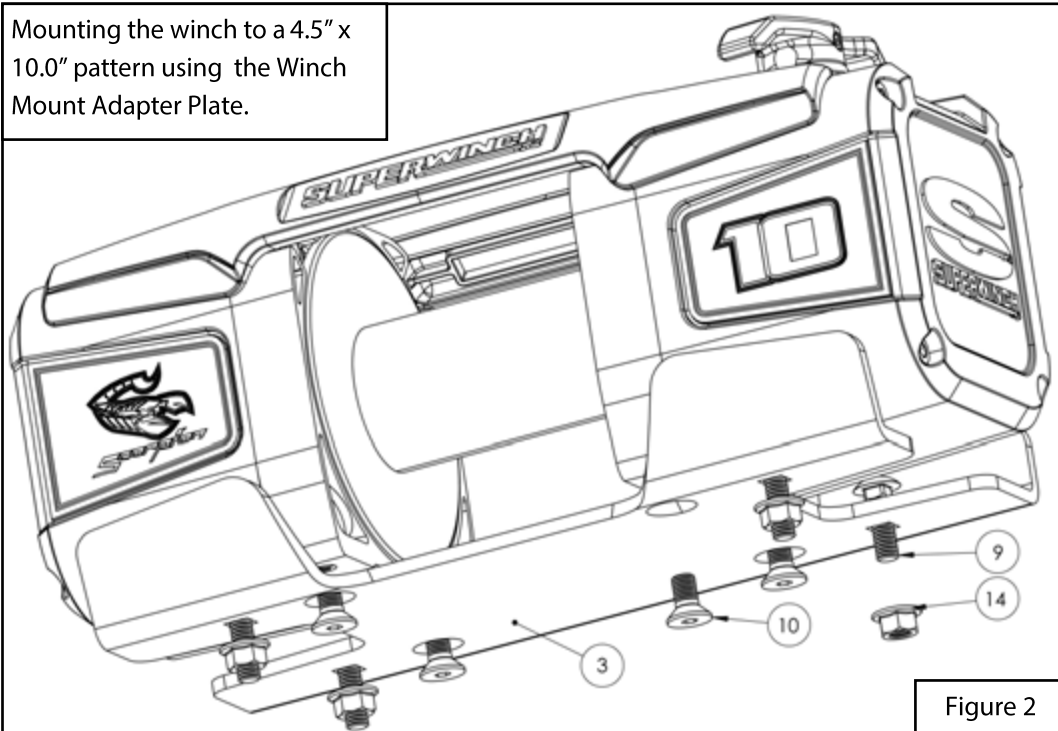

Figure 2
6. Alternatively the winch may be mounted to a traditional 4.50" x 10.00" bolt pattern though the use of the supplied Winch Mount Adapter Plate. See **Figure 2**.
7. Prior to installing the winch on the adapter plate, place the M10 Carriage Bolts loosely in their corresponding square holes. Next install the adapter plate to the winch using the supplied M10 Flat Head bolts. Tighten the **M10 Flat Head Bolts to 40 ft-lbs.** See Figure 2.